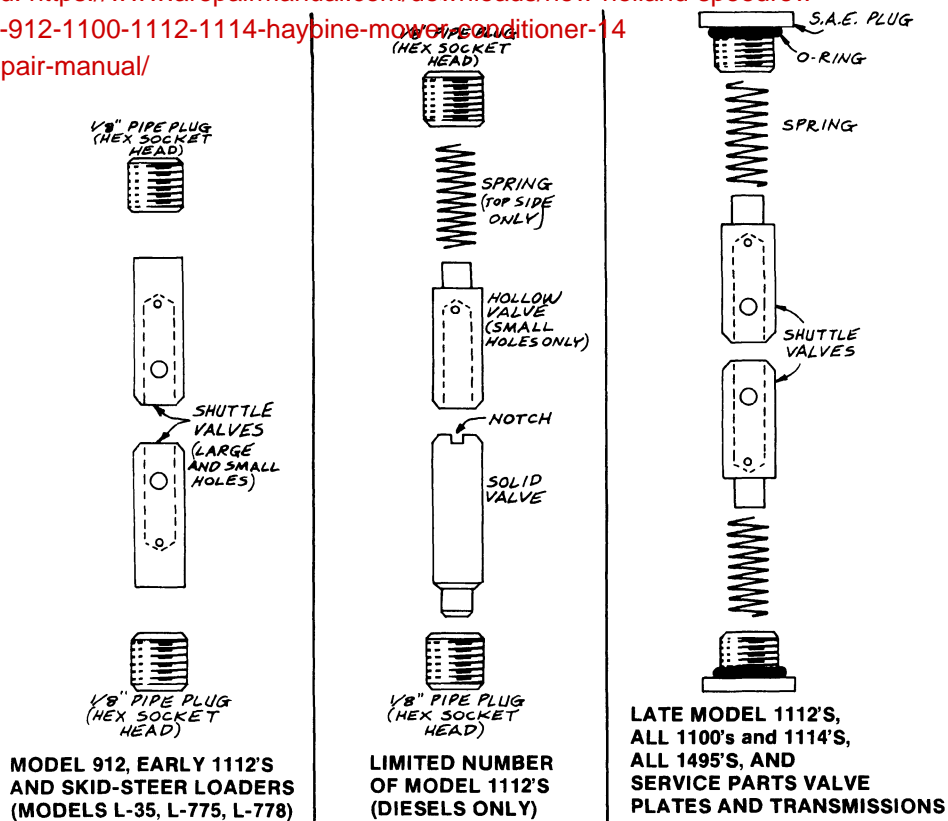

FIGURE 34
Valve plate passages for the two shuttle valves are bored from each side and meet in the center. Both shuttle valves may, or may not, fall out if the bottom plug is removed. If the plugs are removed be sure each shuttle valve is reinstalled in its original location. See Figure 34.
**NOTE:** Model 1112 only. Remove the top pipe plug first. Check for a small spring above the shuttle valve, Figure 34. Remove the spring and top shuttle valve. Remove the bottom plug and valve as required. Replace the bottom valve and plug first. Then replace the top valve, spring (if used), and plug.